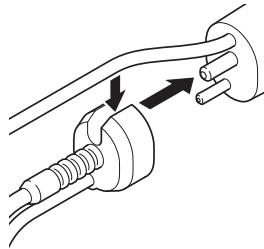

Figure 93 – Handpiece Tubing Connector Installation
- Separate the tubing bundle and attach the handpiece tubing connector to the end of the handpiece (Figure 93).